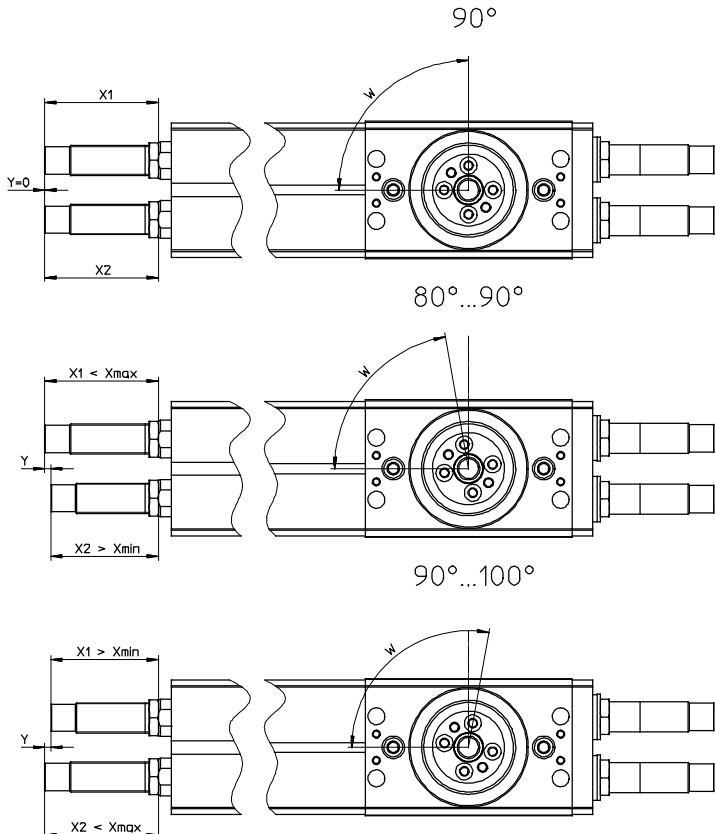

Fig. 5
- setting dimension X1 and X2 are the same size (dimension Y = 0 → Fig. 5, delivery status)
The following settings are possible (→ Fig. 5 and Fig. 6).